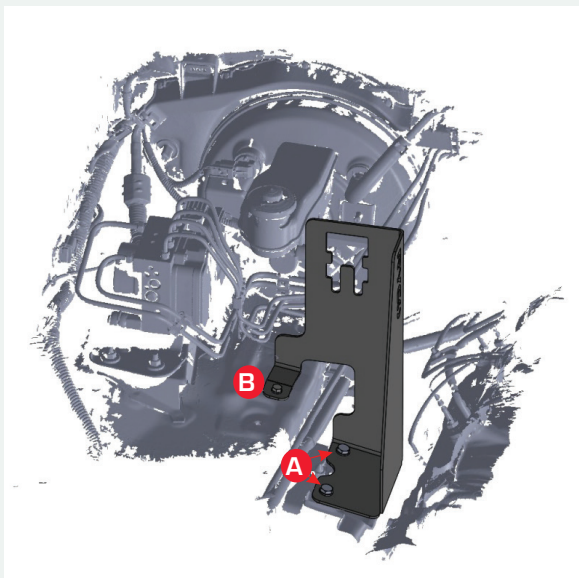

FIGURE 1
- 1 Locate the bracket mounting position on the drivers side of the engine bay as shown in FIG. 1 , then remove the two (2) factory bolts (A in FIG. 1) from the suspension upper control arm shield, but do not remove the shield.